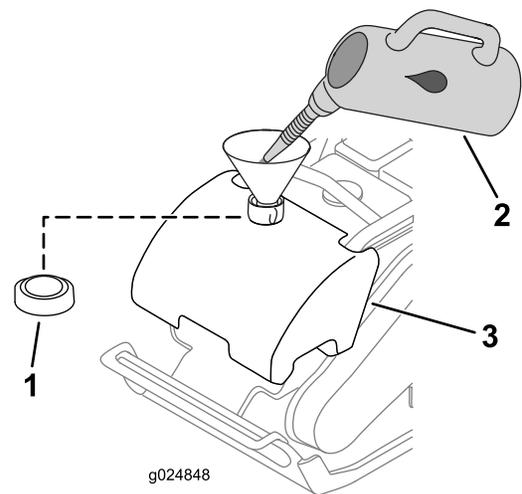

Figure 9
1. Remove the cap from the water tank (Figure 9).
2. Fill the tank with water (Figure 9).
3. Install the cap onto the water tank (Figure 9).